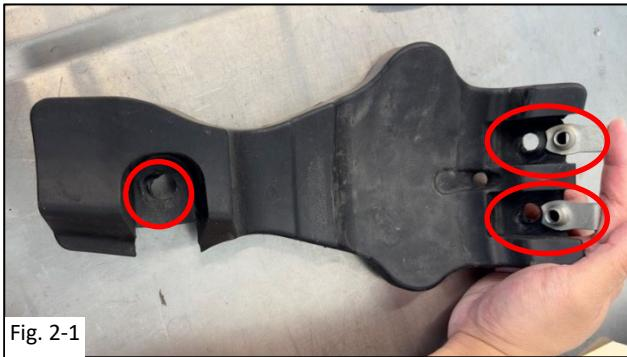

Fig. 2-1
- Install 3 U-nuts onto the Jounce Bumper (Fig. 2-1).